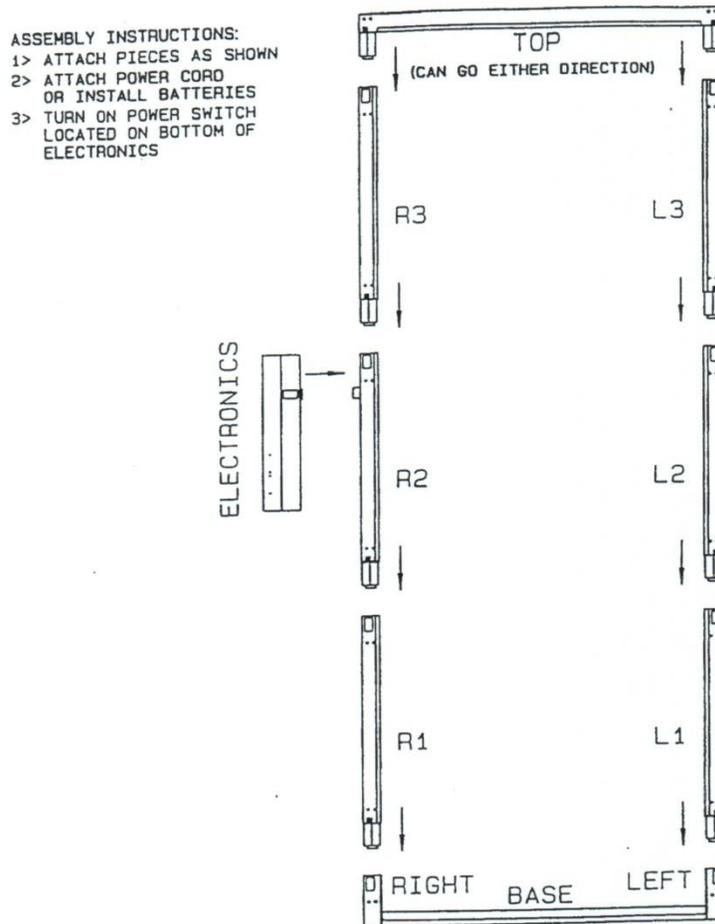

Figure 1- M52 Assembly Drawing
- A. The agencies in Figure1 are responsible for assembly for storage.
Refer to Figure 1 of this section – Ludlum Model 52 Assembly Drawing for the following assembly.